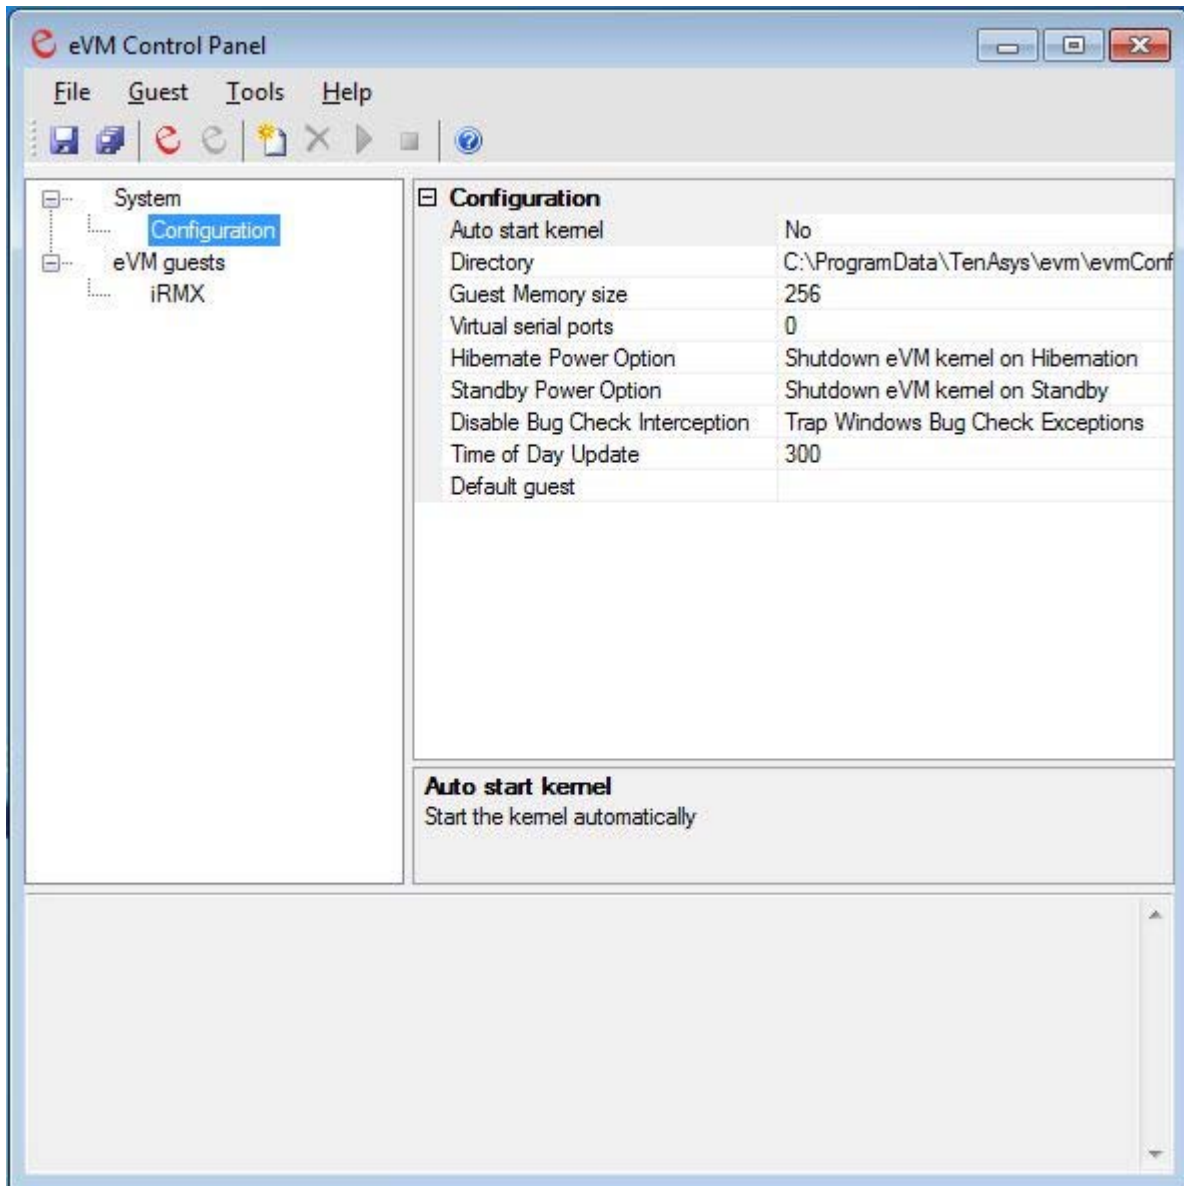

Figure 4.21 - eVM Control Panel Showing System Configuration with No Virtual Serial Ports
1. Open the eVM Control Panel, and in the left panel under System, click **Configuration**, Figure 4.21.